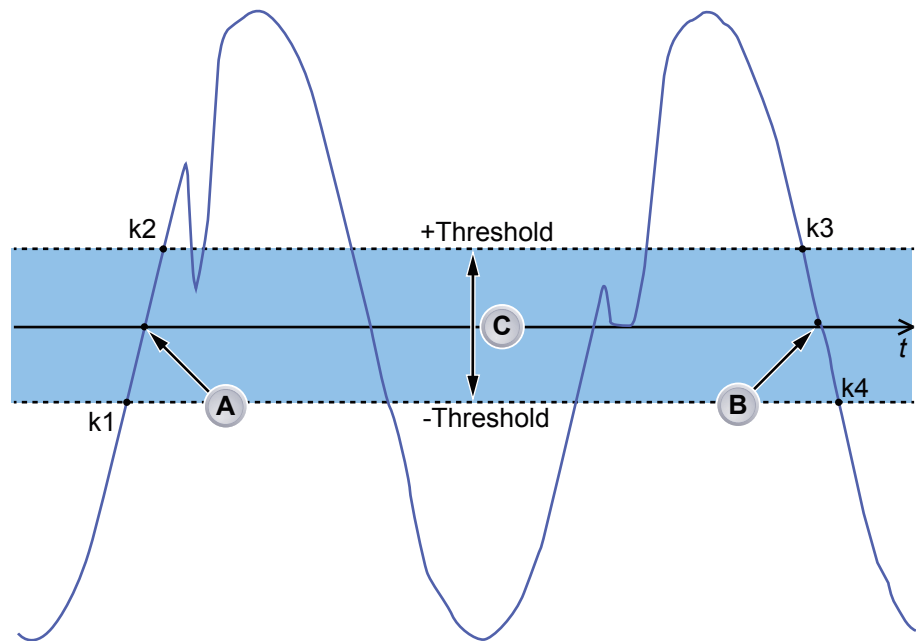

Figure 6.1: Level crossings
The cycle detection algorithm principle works as follows (see Figure 6.1):
- Calculate the center amplitude crossing time by linear interpolation between the samples at indices k_1 and k_2 . This crossing time detection can occur in two ways: either a rising edge crossing (point A) or a falling edge crossing (point B). See Figure 6.1.
- Each pair of crossing times, such as times **A** and **B** of Figure 6.1, defines a cycle time segment.